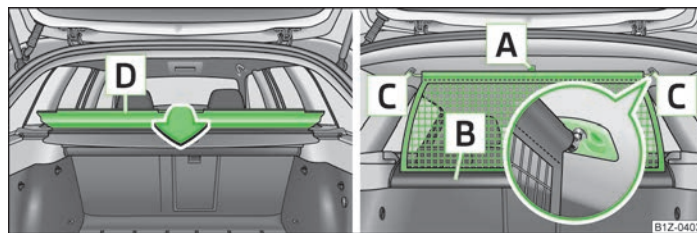
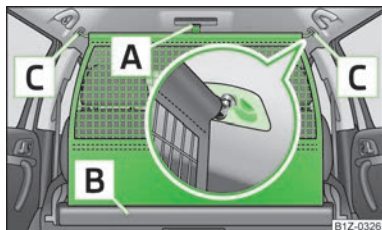

Fig. 59 Folding down the storage compartment cover/pulling out the net partition
Fig. 60
- Ensure that the cross rod is inserted into the mounts **C** » Fig. 59 on page 65 or » Fig. 60 on page 66 in the front position!
- Fold down the storage compartment cover **D** » Fig. 59 behind the rear seats.
- Fold down the storage compartment cover **D** » Fig. 59 behind the rear seats. ▶
- Pull the net partition by the bracket **[A]** » Fig. 60 out of the housing **[B]**.
- First pull the cross rod back slightly on the one side and then on the other side and remove it from the mounts **[C]** » Fig. 60.